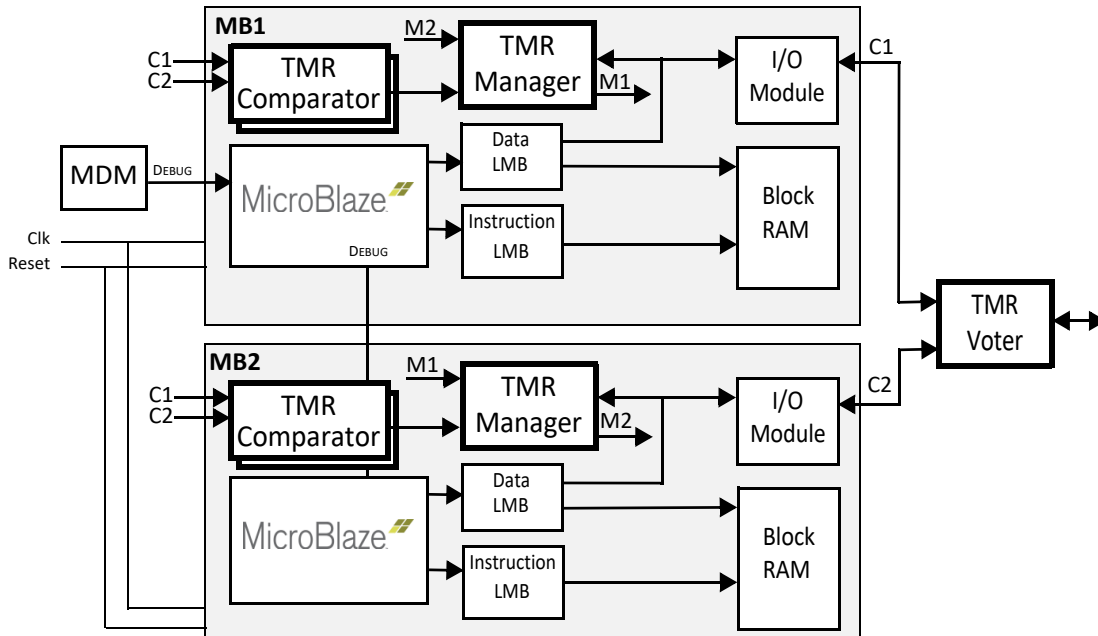

Figure 2-7: Lockstep MicroBlaze Fail Safe Subsystem
The TMR Manager and TMR Comparator implementation supports a dual lockstep configuration, which only duplicates the sub-blocks to provide a Fail-Safe (FS) subsystem, as shown in Figure 2-7. In this subsystem, there is no need for voting, although the TMR Voter is used to distribute bus interface input signals to the two blocks.